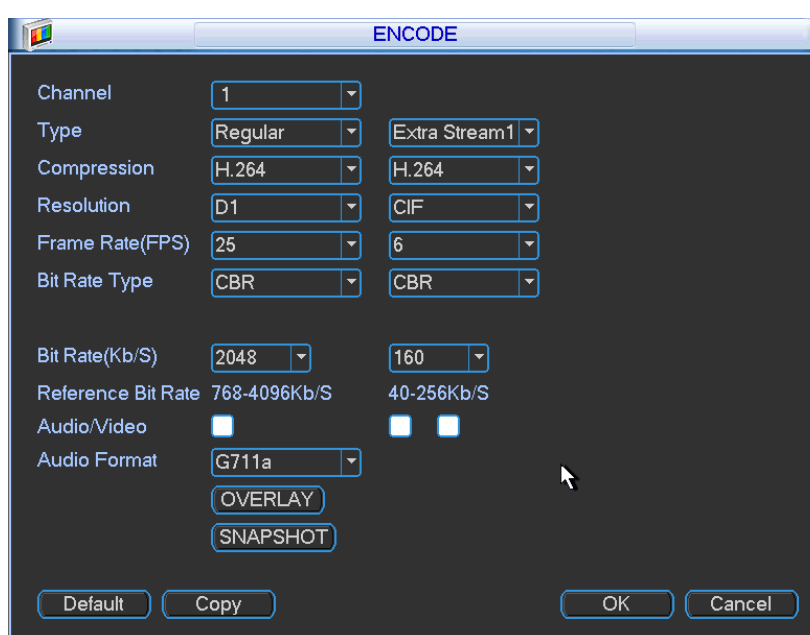
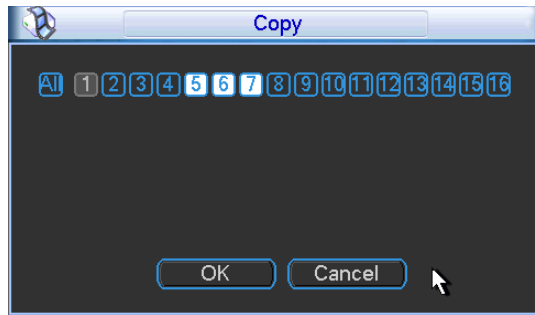
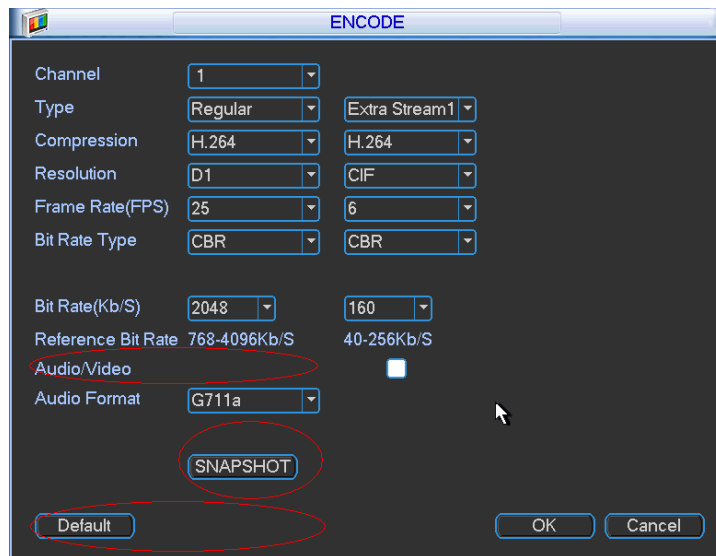

Figure 5-8
Figure 5-10
Figure 5-11
Encode setting includes the following items. See Figure 5-8.
- Copy: After you complete the setup, you can click Copy button to copy current setup to other channel(s). You can see an interface is shown as in Figure 5-10. You can see current channel number is grey. Please check the number to select the channel or you can check the box ALL. Please click the OK button in Figure 5-10 and Figure 5-8 respectively to complete the setup. Please note, once you check the All box, you set same encode setup for all channels. Audio/video enable box, overlay button and the copy button is shield. See Figure 5-11.